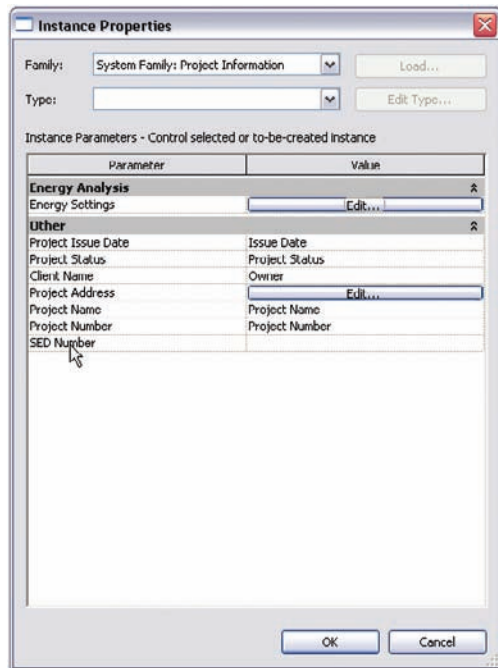

FIGURE 23.22 Voilà! The new shared parameter!
15. On the Manage tab, click the Project Information button. Notice that SED number has been added to the list. See Figure 23.22.